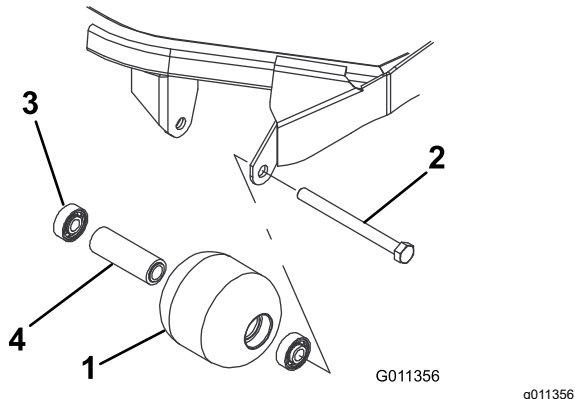

Figure 94
1. Remove the roller-mounting bolt (Figure 94).
1. Press the first bearing into the roller housing (Figure 94). Press on the outer race only or equally on the inner and outer race.
2. Insert the spacer (Figure 94).
3. Press the second bearing into the roller housing (Figure 94). Pressing equally on the inner and outer race until the inner race contacts the spacer.
4. Inspect the roller housing, bearings, and bearing spacer for damage (Figure 94). Replace any damaged components and assemble them.